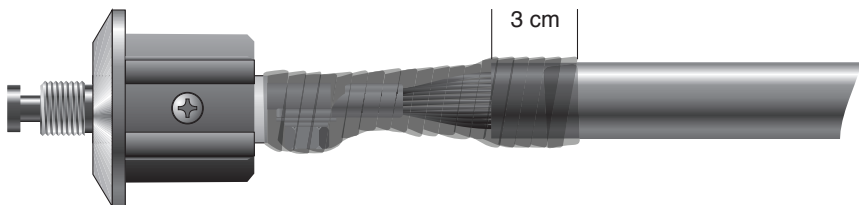

Figure 25.
9. Again using the semi-conductive tape, start stretching and wrapping over the aluminium conductor strands and connection to the lower finial connector to start building up in multiple layers. Continue wrapping the tape over the area shown to cover the last 3 cm of the black insulation, over the lower finial connector and up to the black plastic section of the mast base assembly in multiple layers, completely covering the crimp and achieving as smooth and level a surface as possible, removing all sharp edges [Figure 25].